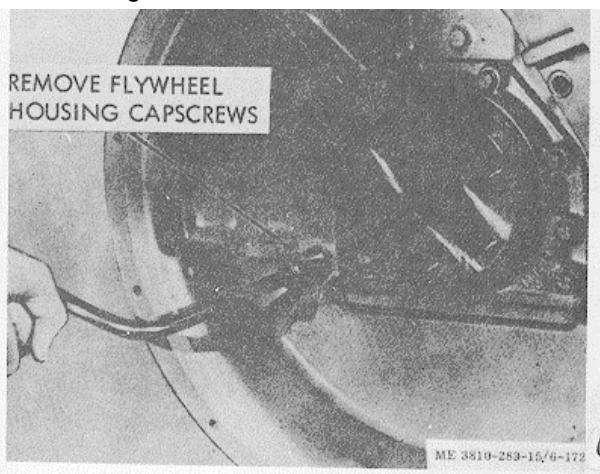

Figure 3-166. Flywheel housing removal.
(1) Remove clutch assembly (para 3-15).
(2) Remove flywheel assembly (para 343).
(3) Remove capscrews, lockwashers and flatwashers securing flywheel housing to oil pan; remove capscrews, lockwashers and flatwashers securing housing to block, figure 3-166.
(4) Using a soft hammer, tap housing away from engine.